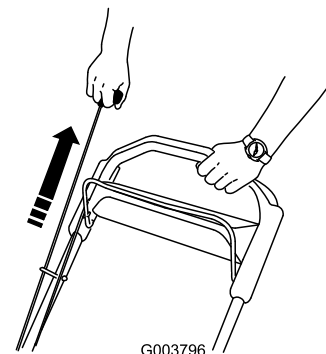

Figure 15
- Pull the recoil starter in the operating position (Figure 15).